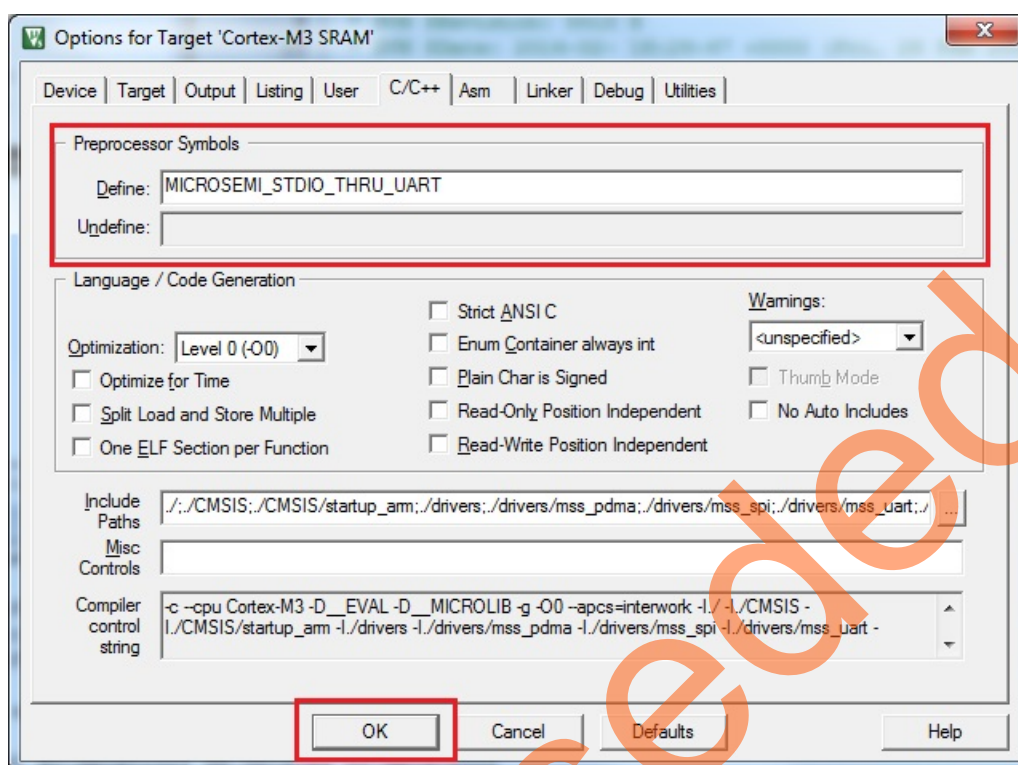

Figure 26 • Target Options-Add Symbols
- b. Go to **C/C++** tab and enter **MICROSEMI_STDIO_THRU_UART** at **Define** under Preprocessor Symbols as shown in Figure 26 on page 23.